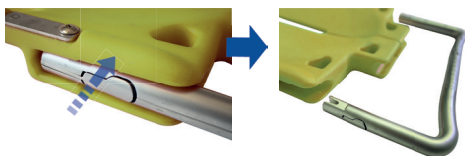

Fig.1
1. To position the ultraCOMBI-STRETCHER II under the patient without moving it, open one of the metal brackets. To do this, press the metal button on the side of the metal bracket and pull out the metal bracket (Fig. 1).